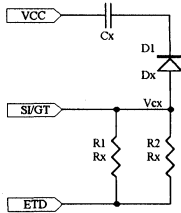

Figure 2.
- Decreasing  $T_4$  ( $T_4 < T_5$ ) Fig. 2